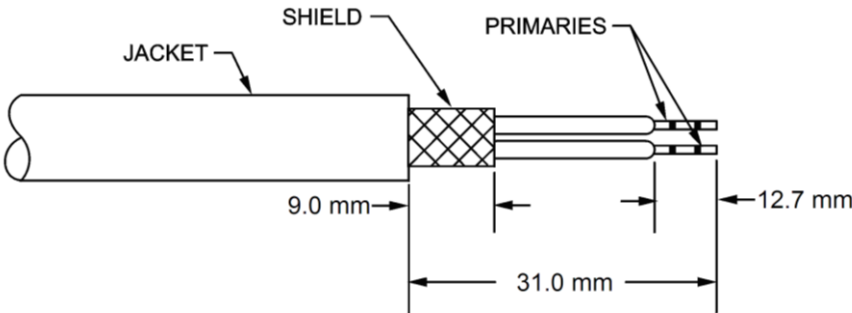

Figure 5–27 Single Shield Cable Strip Dimensions
- a. Remove 31mm of cable jacket (Figure 5–27).